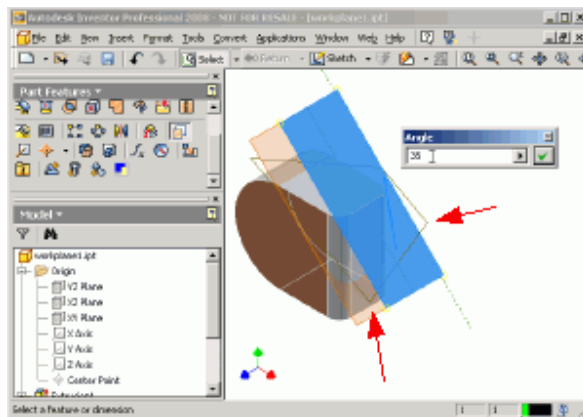

Figure 14: Use the line/workplane to create 2nd WP
3. Use the angled workplane and the sketch line from step 2 to create a third angled workplane at a compound angle (Figure 14).